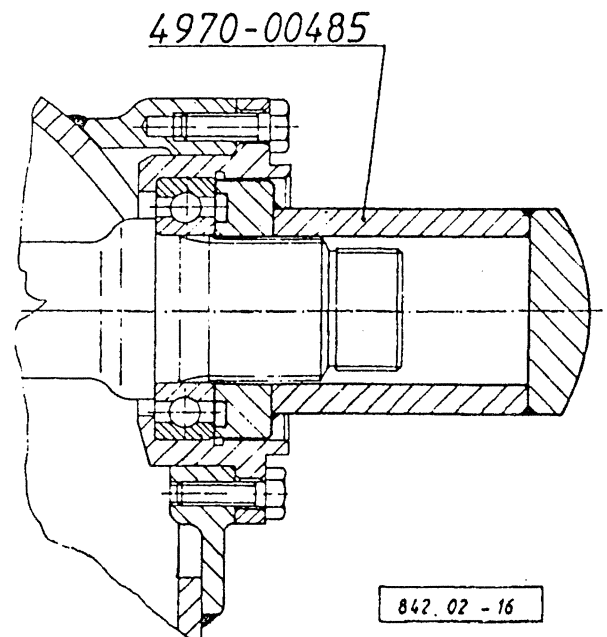

Fig. 2.: REINSTALLING THE THRU-DRIVE SHAFT
Heat up the deep-groove ball bearing to **80 - 100° C** and by means of tool shown in **Fig. 2**, install to the thru-drive shaft to bottom out against the shoulder ring.
Position the subassembled thru-drive shaft to the axle housing, the aligning its splines to those of the differential gear I. (91) drive the deep-groove ball bearing together with the shaft to place until the bearing bottoms out against its seat. For driving in use the same tool as above (see **Fig. 2**).
By the above tool drive in the inner sealing ring, position the distance ring (99) and also drive in the outer sealing ring by the drive sleeve shown in **Fig. 2**. to flush with outer edge of the bearing cage.